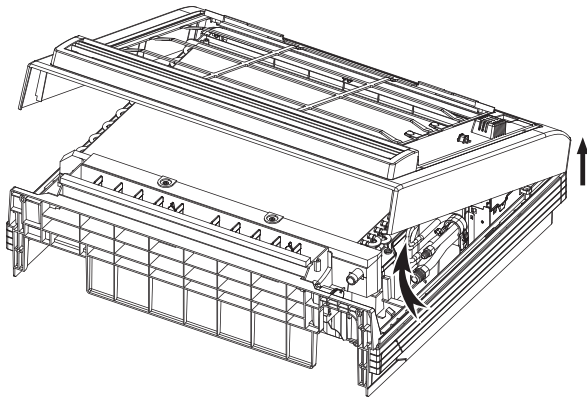

Fig. 9 – Remove the front cover
3. Remove the front cover (see Fig. 9).